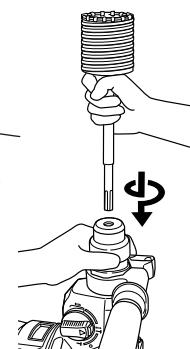

Fig. 33
(2) Mount the core bit to the rotary hammer (**Fig. 33**).